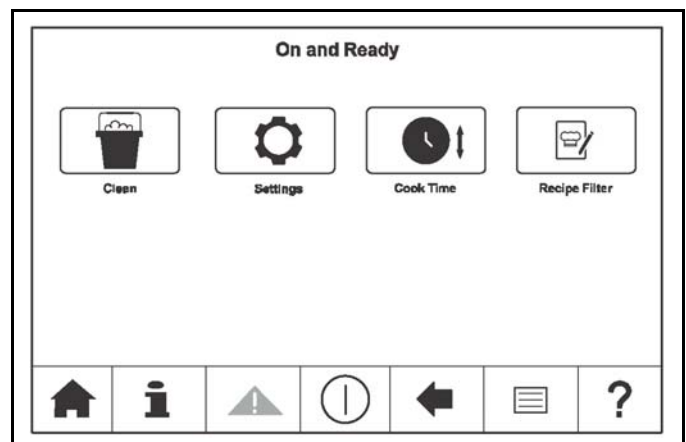

Figure-24
- The Menu screen appears below. See Figure-24.